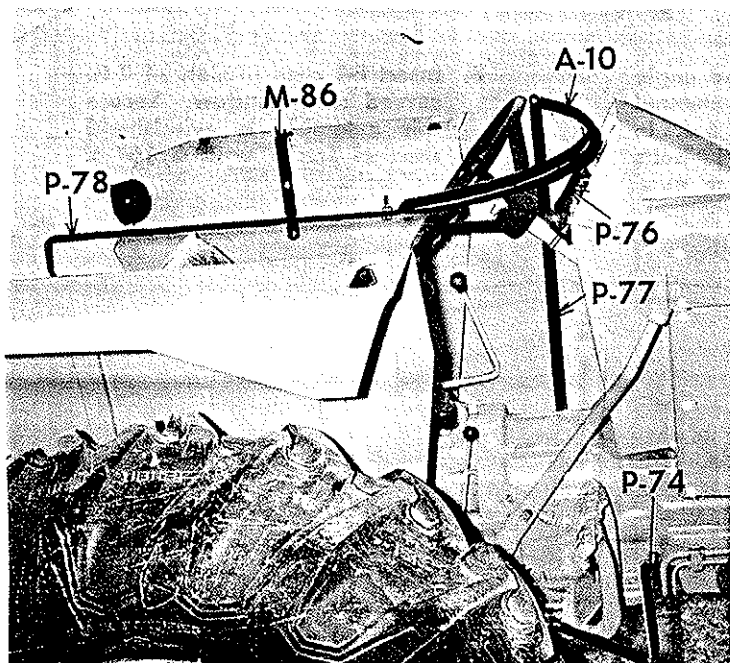

Figure 1
1. Bolt P-76 mounting bracket to steering column using U-bolt. See Figures 1 and 2.
2. Bolt P-74 pedal guard to right step using 5/16" x 1" bolt and nut. Place one 3/8" washer under step, see Figure 1.
3. Place vinyl over tractor and slide A-10 yoke into wide hem in top of cover. Bolt A-10 to P-76 using 1/4" x 3/4" hex head bolts and nuts. See Figures 1 and 2.
4. Insert P-78 side arm into wide hem on right side and bolt to A-10 using 3/8" x 11/2" hex head bolt and nut. Bolt bottom end to rear of platform using 3/8" x 11/2" bolt and nut. See Figure 1.